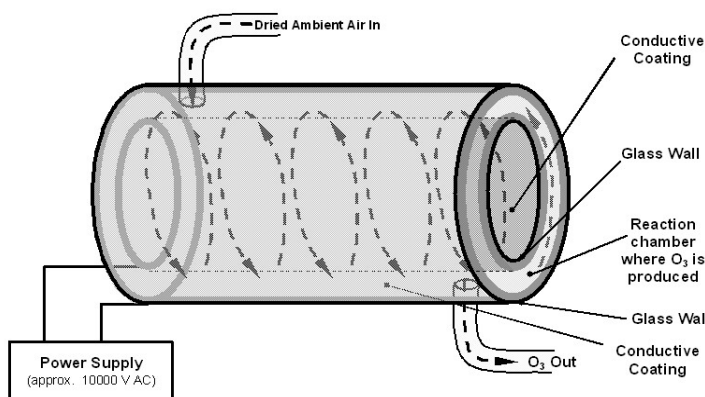

Figure 6-8. Ozone Generator Principle
The analyzer uses a dual-dielectric, Corona Discharge (CD) tube for creating its O₃, which is capable of producing high concentrations of ozone efficiently and with low excess heat (see Figure 6-8). The primary component of the generator is a glass tube with hollow walls of which the outermost and innermost surfaces are coated with electrically conductive material.